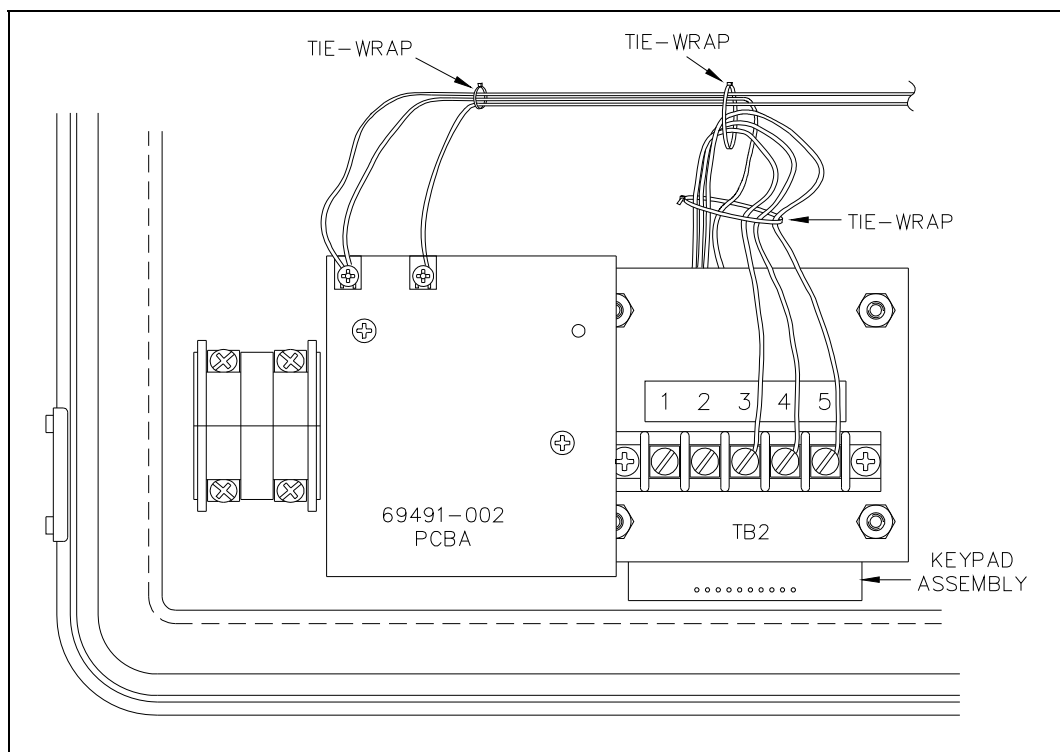

Figure 7. Tie-Wrap Location Example
22. Re-secure the wiring as noted in Step 3 using the supplied tie-wraps. Wires MUST be routed and secured to prevent contact with uninsulated conductors. Refer to Figure 7 as an example.